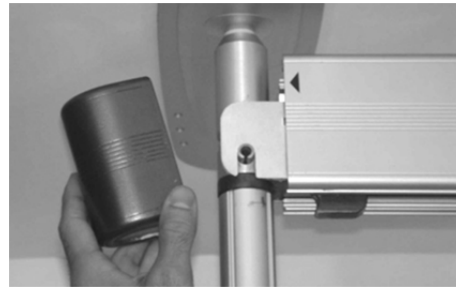

Figure 33
2. Remove the round blue cap (see Figure 9, item #9) from the ends of the rail, by pulling them away from the post (see Figure 33).